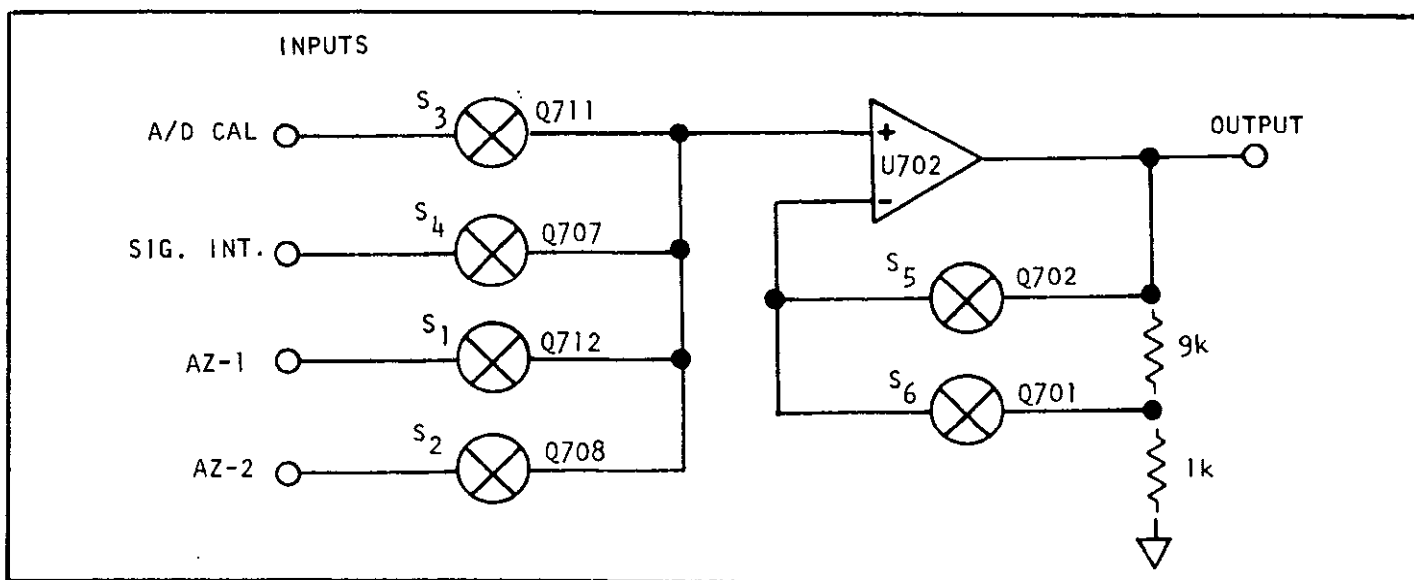

FIGURE 5-13. Simplified Schematic of A/D Buffer.
d. A/D Buffer. The buffer (shown in Simplified Schematic, Figure 5-13) performs two functions. It has four multiplexing JFET switches ( $S_1$  through  $S_4$ ) that connect the necessary inputs to the A/D converter to provide the four basic modes of operation. The driving signals ( $Z_1$ ,  $Z_2$ , R and NS) for the multiplexing switches come from LSI circuit U901. The second function of the buffer is to provide two gains ( $\times 1$  and  $\times 10$ ) which give 3V and 0.3V ranges, respectively. Buffer gain during AZ-1 and ACAL is  $\times 1$  for V, A and every other  $\Omega$  range. Buffer gain during AZ-2 is the same as signal integrate, which is  $\times 10$  on 300mV, 30V, L0 $\Omega$ , 300mA on 172A and all current ranges of 173A. A gain of  $\times 1$  is used elsewhere. LSI chip U901 controls  $S_5$  and  $S_6$  (Q702 and Q701) via the G10 line.